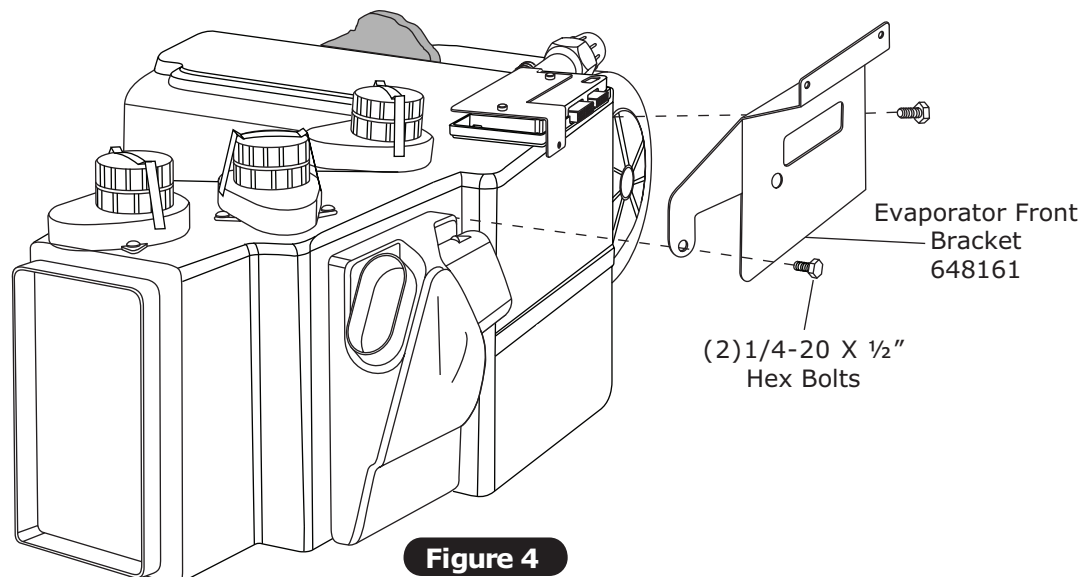

Figure 4
2. Install front mounting bracket onto evaporator using (2) 1/4-20 x 1/2" hex bolts, and tighten as shown in Figure 4, below.